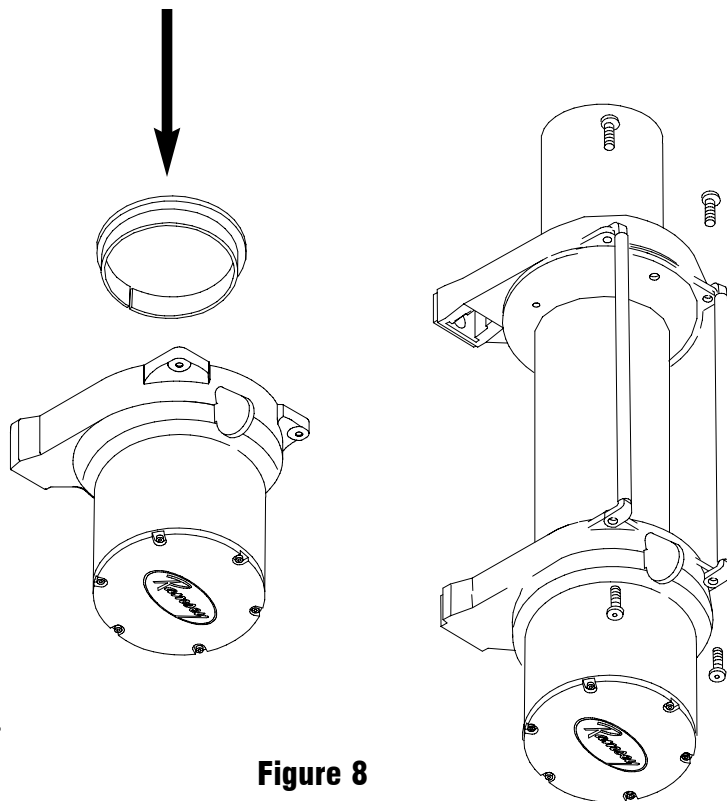

Figure 8
12. Install the drum bushing into the Gear Housing, confirming that the slot in the bushing is aligned with the key in the end bearing. See Figure 8. Pick up the rest of the winch (drum and motor end), and holding the drum, lower the winch onto the gear end. Stab the shaft into the gear end--you may need to turn the drum slightly to get the shaft to go all the way in.
13. Place the tiebars on the motor end and gear end and fasten using (4) screws. Tighten securely.